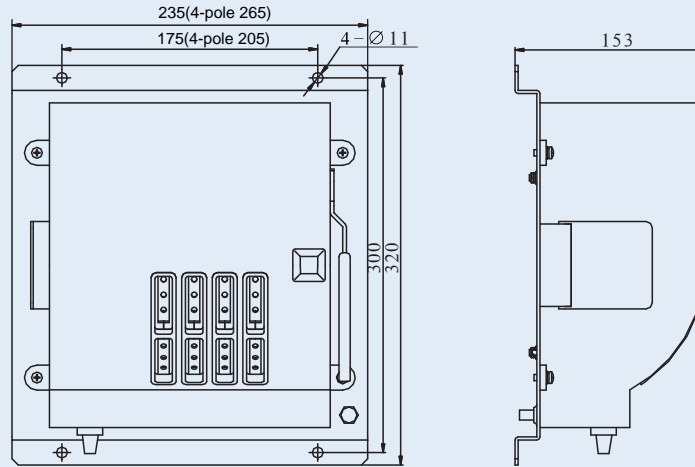

Fig.3
3. Fig. 3 shows overall and installing dimensions of HSQ6-200, the overall and installing dimensions of controller is shown in Fig. 6. (The upper connects the standby power supply and the load, the lower is connected to the power supply.)